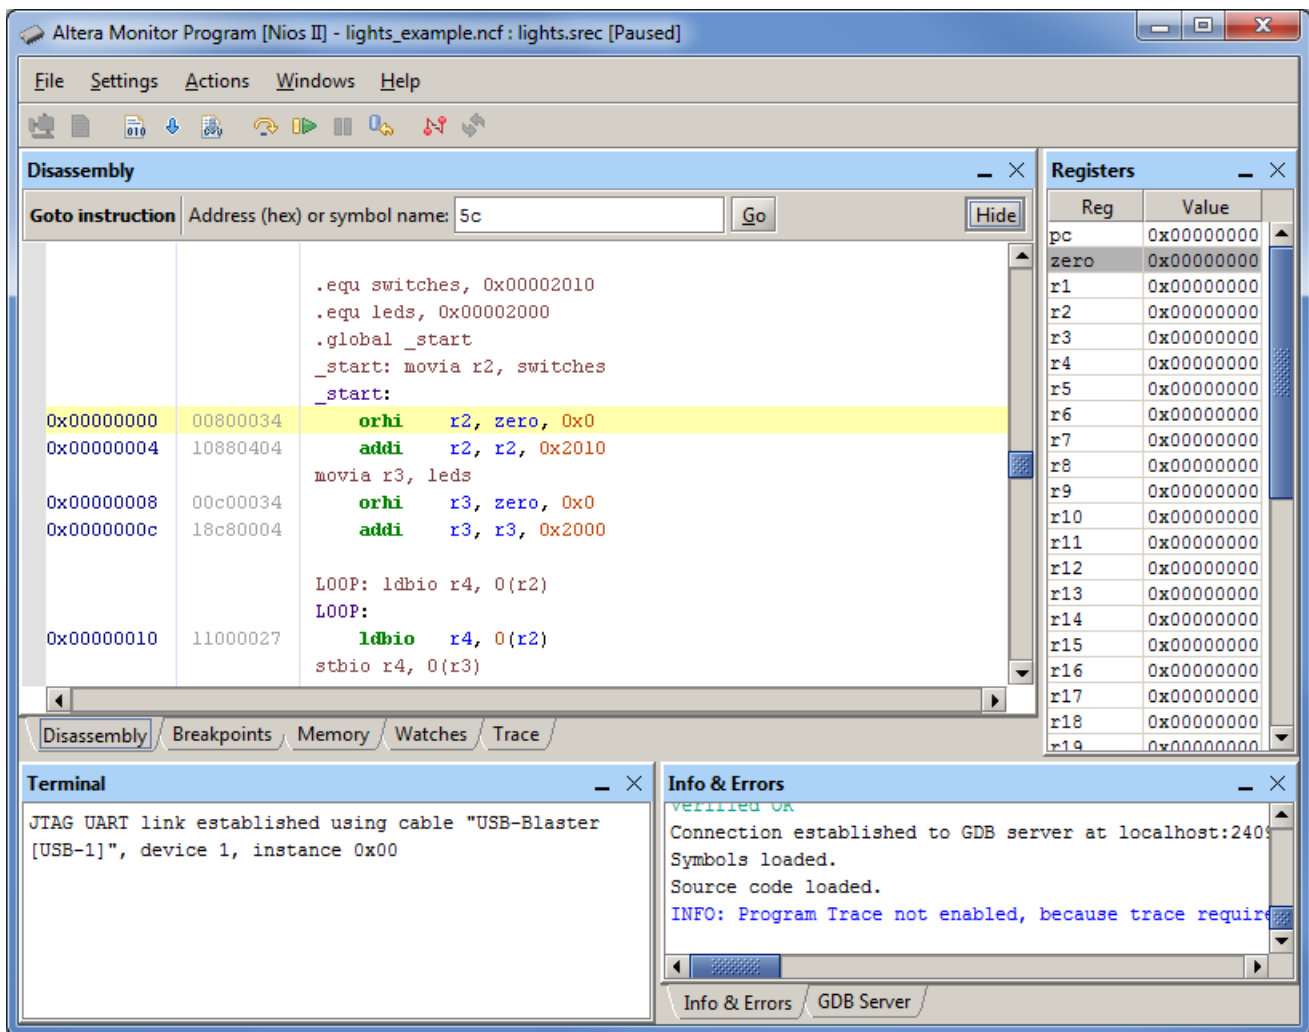

Figure 33. Display of the downloaded program.
9. The downloaded program is shown in Figure 33. Run the program and verify the correctness of the designed system by setting the slider switches to a few different patterns.